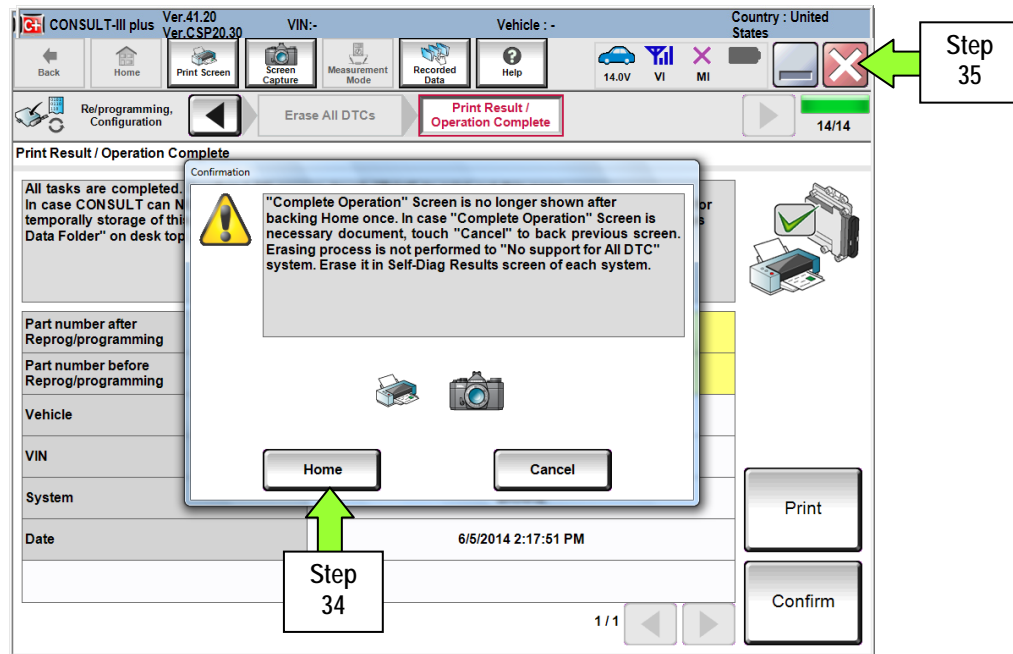

Figure 23
35. Close C-III plus by selecting "X" (see Figure 23).